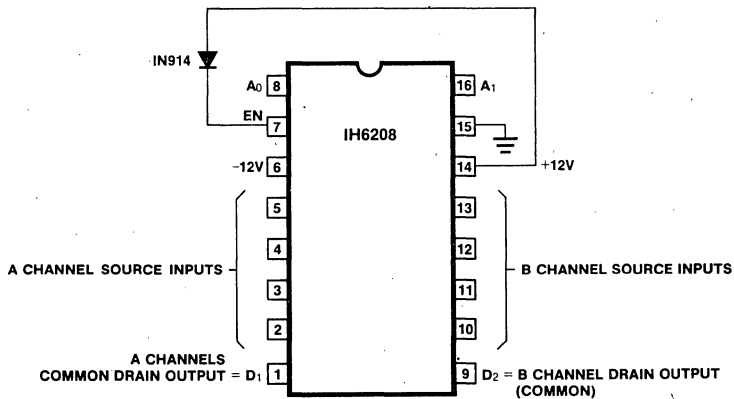

Figure 6. IH6208 Connection Diagram for less than $\pm 15V$ Supply Operation.
Caution must be taken to ensure that the enable (EN) voltage is at least 0.7V below V^+ at all times. If this is not done the binary input strobing levels will not function properly. This may be achieved quite simply by connecting EN (pin 2) to V^+ (pin 14) via a silicon diode as shown in Figure 6. A further requirement must be met when using this type of configuration; the strobe levels at A0 and A1 must be within
2.5V of the EN voltage in order to define a binary "1" state. For the case shown in Figure 6 the EN voltage is 11.3V, which means that logic high at A0 and A1 is = +8.8V (logic low continues to be = 0.8V). In this configuration the IH6208 cannot be driven by TTL (+5V) or CMOS (+5V) logic. It can be driven by TTL open collector logic or CMOS logic with +12V supplies.